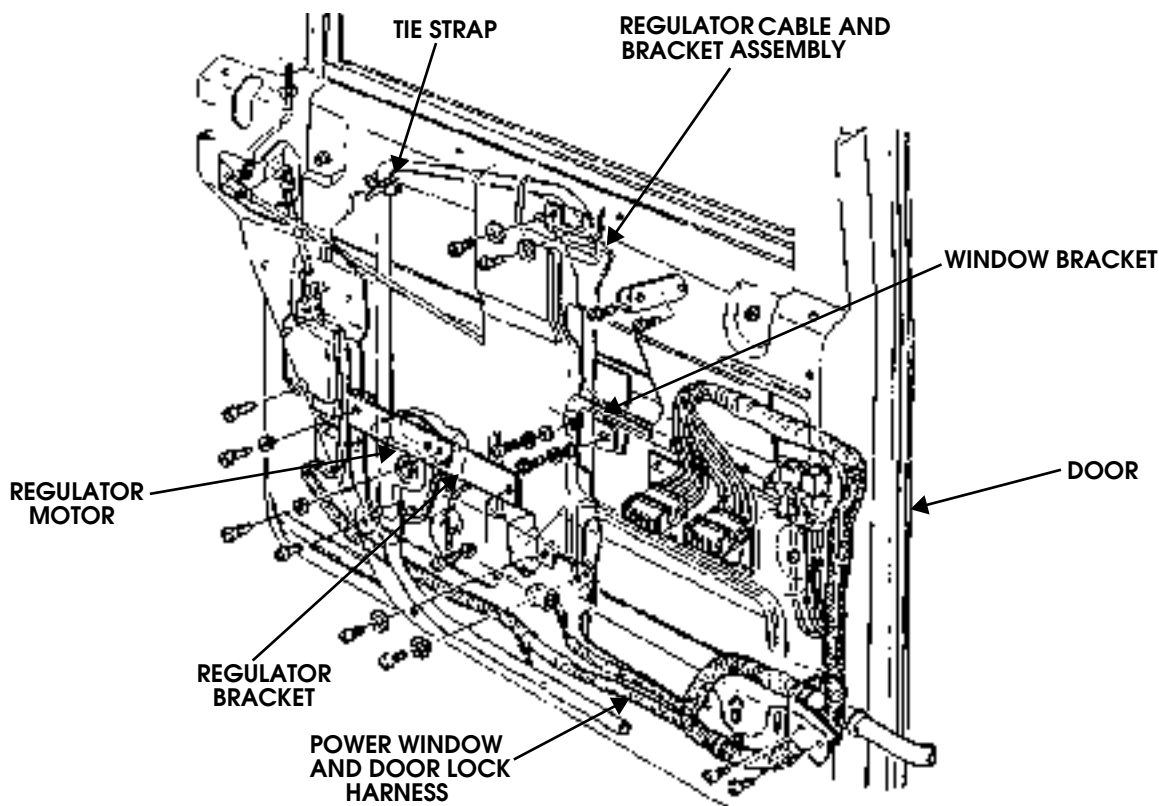

Figure 10-68: Power Window Regulator
3. Disconnect power window and door lock harness connector from regulator motor (Figure 10-68) (push locking tab up on bottom of connector).
1. Install regulator in door and secure with tie strap (Figure 10-68).